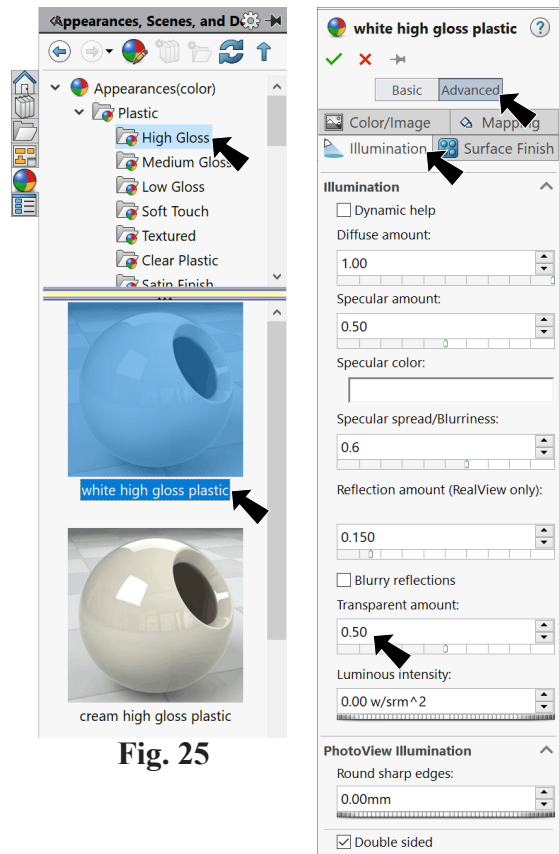

Fig. 25
Step 3. In the Appearances Task pane, expand **Plastic**, click **High Gloss** and in the lower pane select **white high gloss plastic**, Fig. 25.